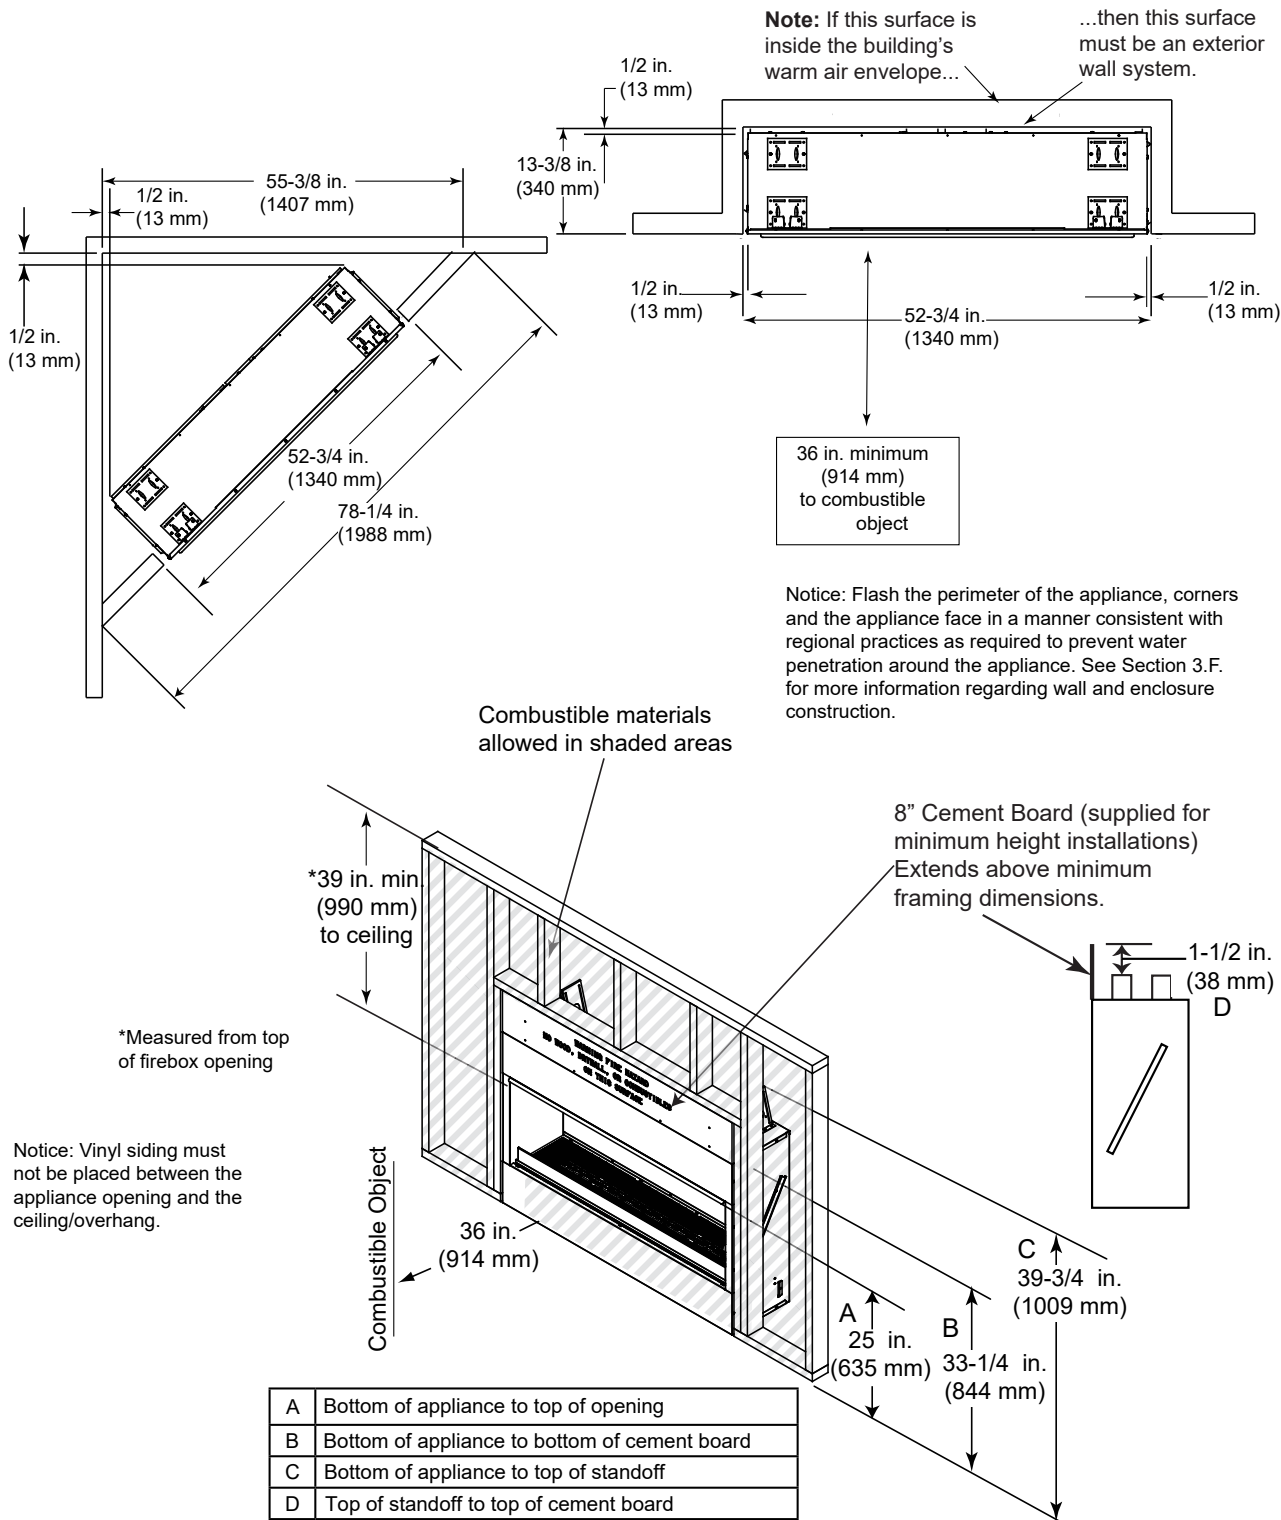

Figure 3.3. Appliance Locations and Framing Dimensions - ODLANAIG-48
Dimensions are actual appliance dimensions. Use for reference only. For framing dimensions and clearances refer to Figures 3.3, 3.4 and 3.5.
When selecting a location for the appliance, it is important to consider the required clearances to walls (see Figures 3.3, 3.4, 3.5 and 3.6.)
- See Figure 3.3, 3.4, 3.5 and 3.6 for required clearances.
- See framing measurements in Figure 3.3, 3.4 and 3.5.
Flash the perimeter of the appliance, corners and the appliance face in a manner consistent with regional practices as required to prevent water penetration around the appliance. See Section 3B and Figure 3.3, 3.4 and 3.5 for more information regarding wall and enclosure construction.
- See Section 3.F. and Figures 3.3, 3.4, and 3.5 for more information regarding wall and enclosure construction required to prevent moisture penetration into the structure. The appliance will shed moderate amounts of water but is not waterproof.